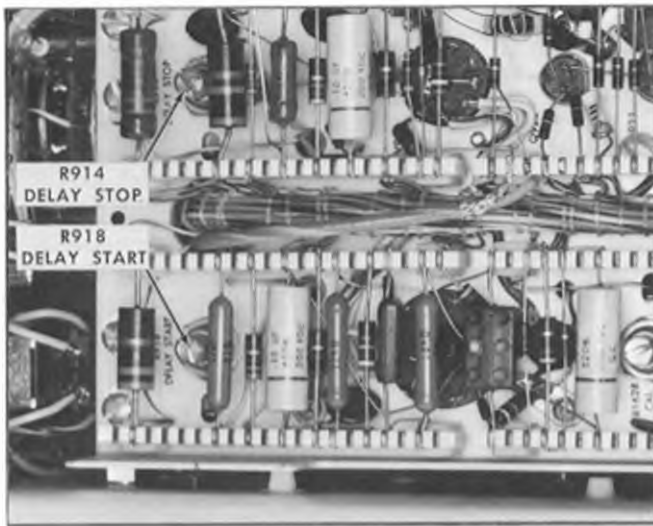

Fig. 6-41. Delay Start and Stop Adjust locations.
- j. Adjust DELAY START R918 (Fig. 6-41) so that the intensified portion of the display starts at the 2nd marker (preliminary adjustment).
- m. Adjust DELAY STOP R914 (see Fig. 6-41) so that the intensified portion of the display starts at the 10th marker.